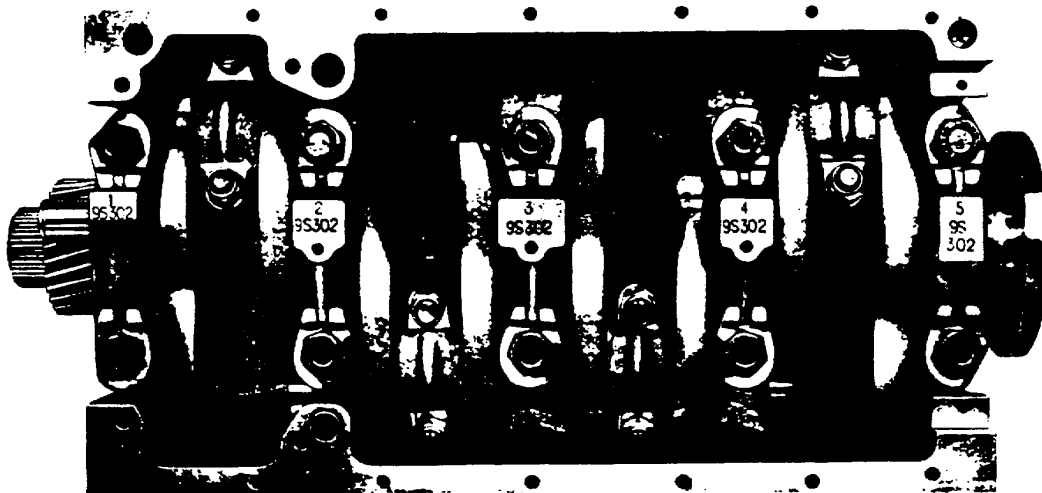

Fig. H.3.
Make sure that the bearing caps are fitted to their original positions. Each cap is numbered to correspond with its engine position commencing with No. 1 at the front of the engine. Each cap is also marked with a serial number as stamped on the cylinder block bottom face. These should read in line (see Fig. H.3).
6. Fit the lower halves of the main bearings to the bearing caps. Oil the bearings and place the caps in their respective positions ensuring that the lower halves of the thrust washers are correctly positioned on either side of the center main bearing cap. When replacing the main bearing caps, ensure that they are fitted in their respective positions, also that they are fitted the correct way round. The caps are numbered, No. 1 commencing at the front of the engine. Each cap is also marked with a serial number as stamped on the cylinder block bottom face. These should read in line (See Fig. H.3).